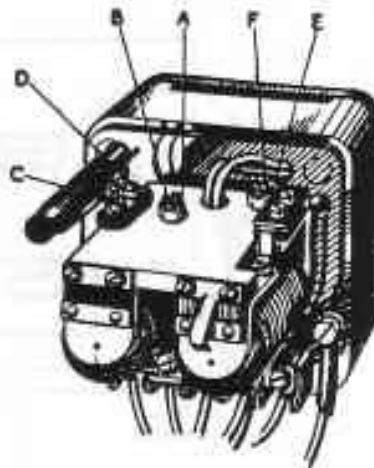

FIG. M7. REGULATOR CONTACTS.
4. Hold adjusting screw (B, Fig. M7) and slacken off locknut "A". Turn adjusting screw clockwise to raise the setting, or anti-clockwise to lower.
To clean the vibrating contacts, unscrew "C" and "D", Fig. M7, and polish with fine emery cloth.